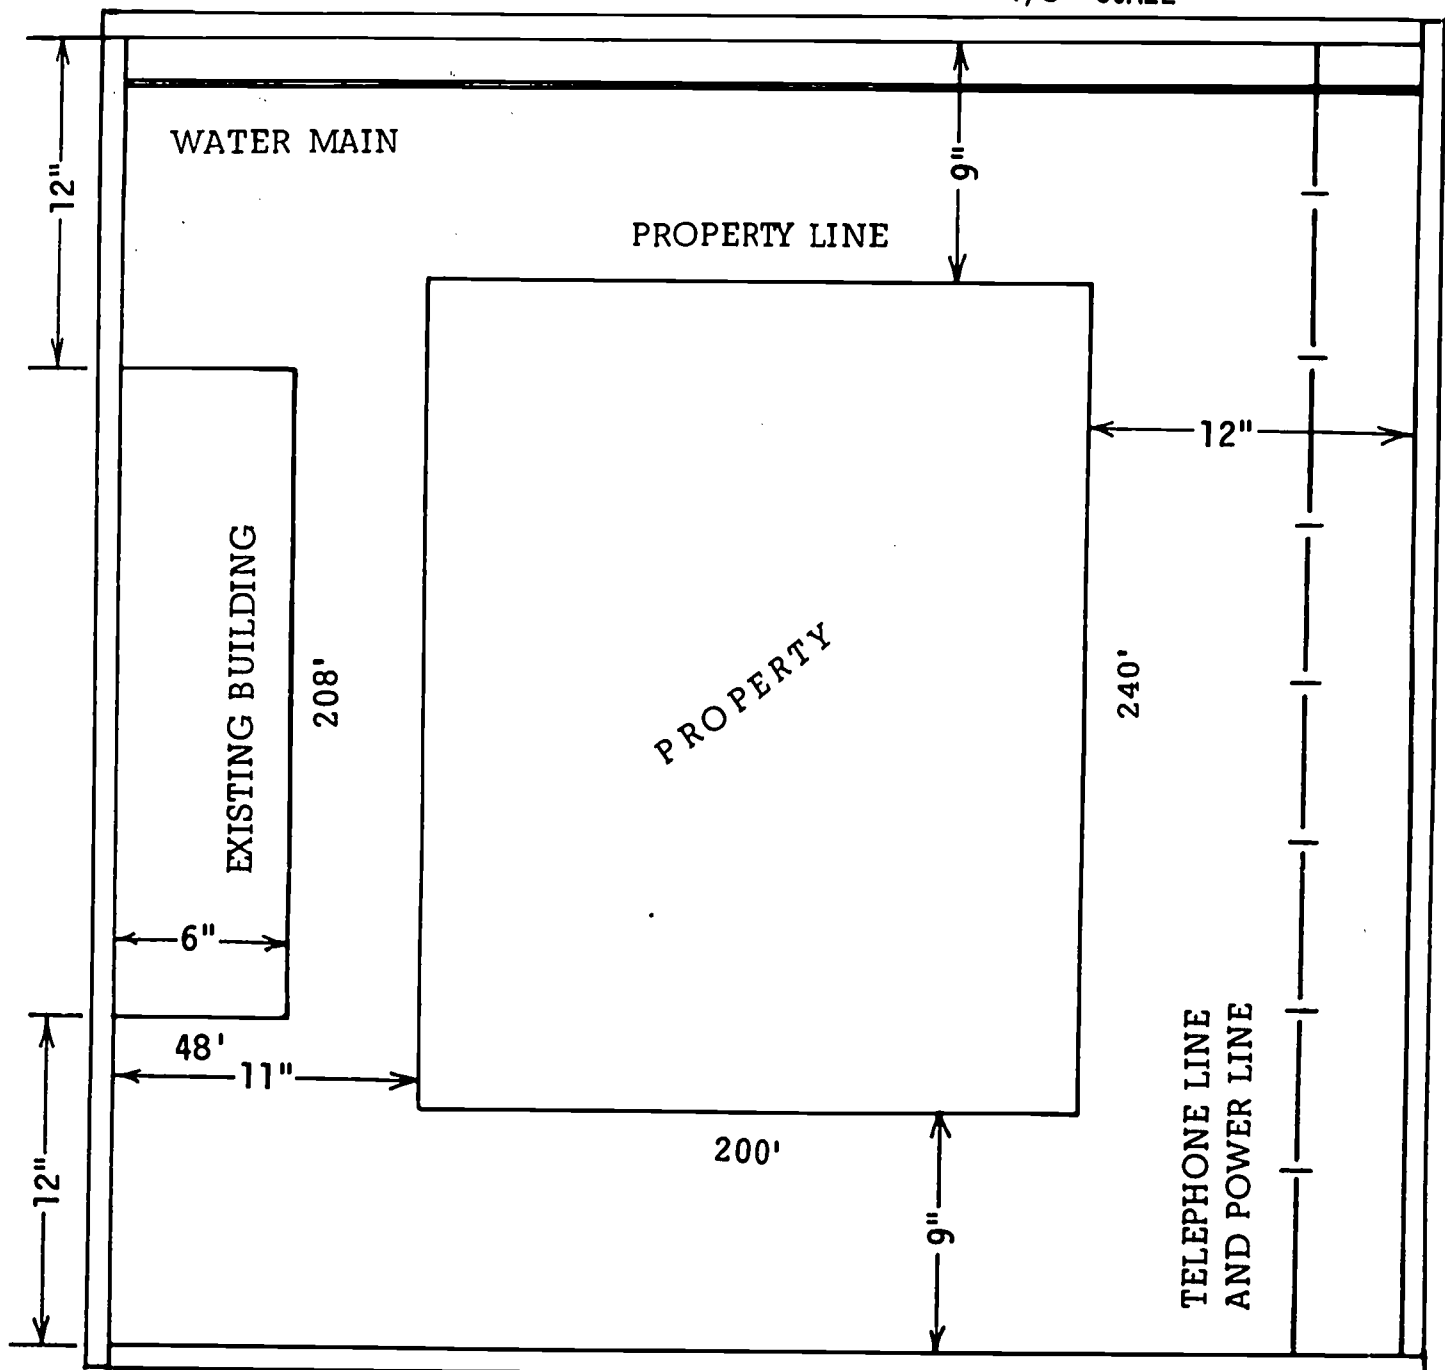
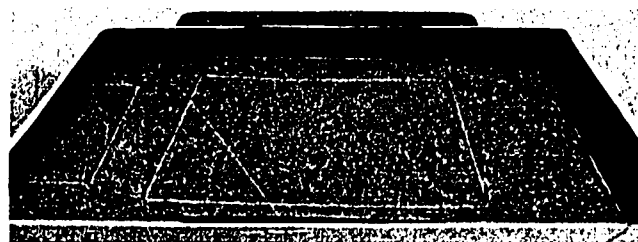

Fig. 30-1. Construction Site Plan
Fig. 30-7. Locating Water Mains
2. Fill the site box with 1" of sand, and level the sand. Study the site plan before you begin. See Fig. 30-1.
4. Using nails, locate and mark the four corners of the property. See Figs. 30-1 and 30-2.
the location of the existing building. See Figs. 30-1 and 30-5.
7. From Fig. 30-1, determine where the telephone lines are located. Measure 5"
8. From Fig 30-1, determine where the water main is located. Measure in 2" from the inside of the box; tack a string in place to represent the water main. See Fig. 30-7.